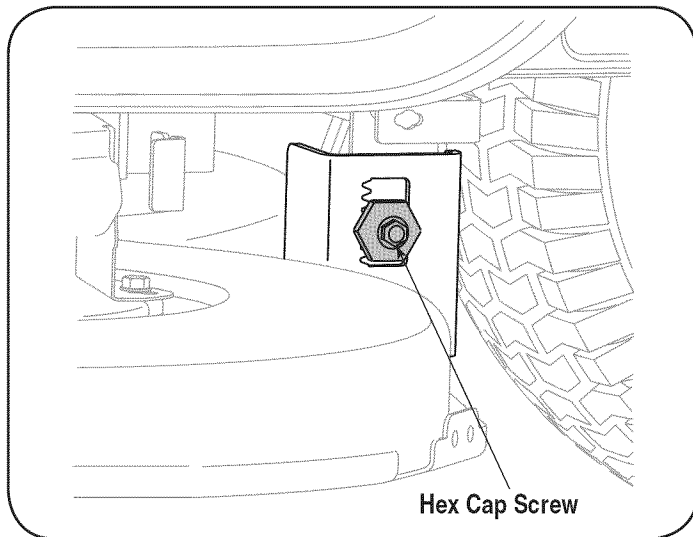

Figure 21
3. Loosen, but do NOT remove, the hex cap screw on the left deck hanger bracket. See Figure 21.